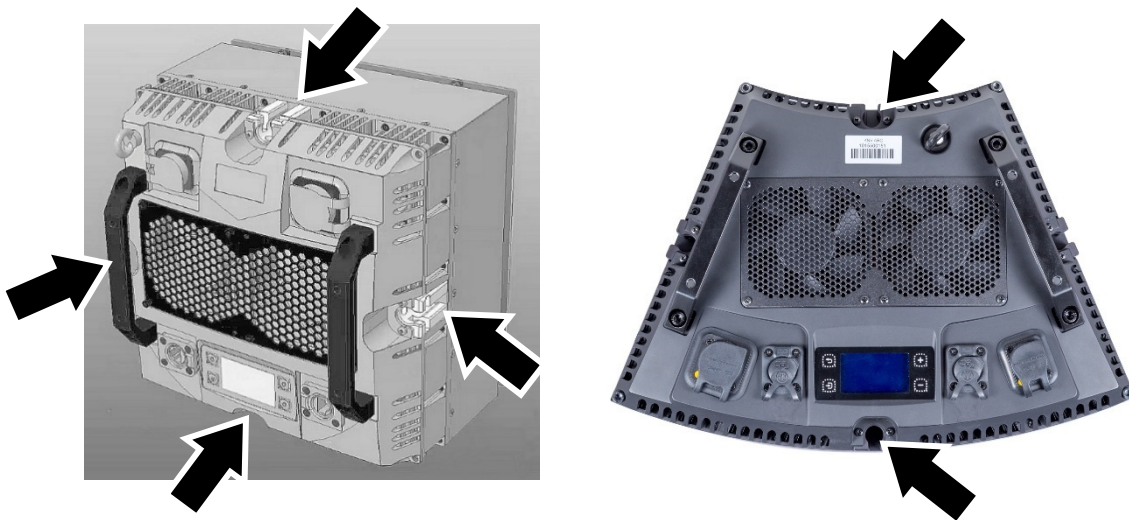

Figure 11. Connection channels for Installation Bracket
The KNV Installation Bracket fastens into the channels arrowed in Figure 11: four channels on KNV Cube and two channels on KNV Arc fixtures.
1. Slide the rounded profiles in the open ends of the installation bracket fully into two of the connection channels (arrowed in Figure 11) on the fixture.